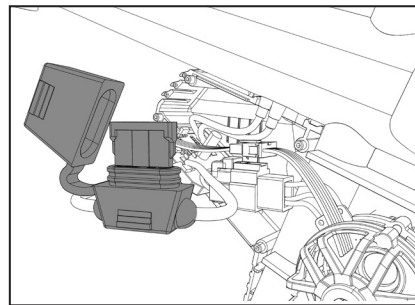

FIGURE 9
2. Locate the inline fuse holder and remove the cover to access the fuse. [Figure 9]